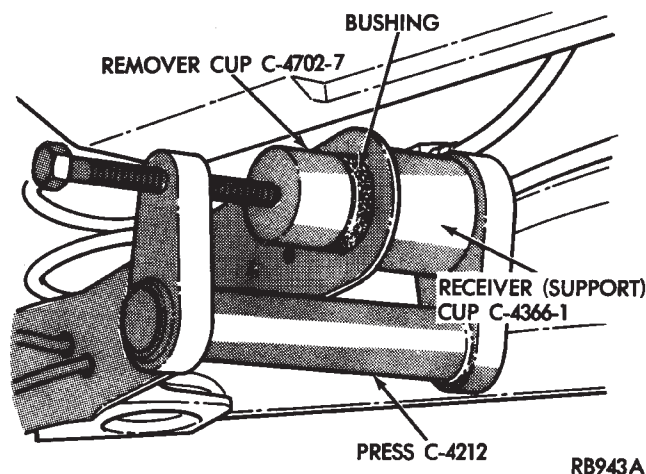

Fig. 4 Tools Installed To Remove Bushing
(1) Install receiver (support) cup C-4366-1 into base of press C-4212 and Bushing Remover Cup C-4702-7 onto screw.
(2) Position assembly with receiver bridge supporting trailing arm while turning screw to begin bushing removal.
(3) After bushing has begun to move replace bushing remover/installer (round disc) with bushing remover (oval shaped disc). Use this assembly to finish pressing bushing out of trailing arm (Fig. 4).